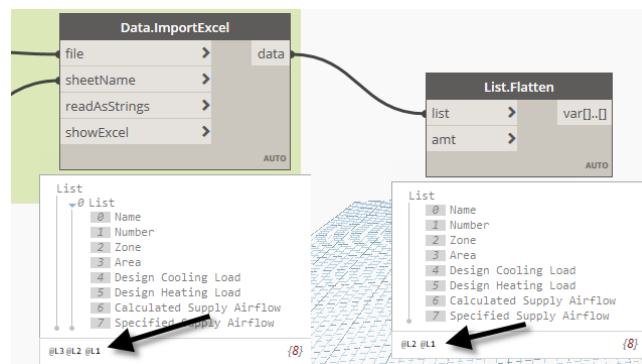

Figure 64
17. Run the graph and expand the Preview Bubble on the **Flatten** node (see Figure 64).